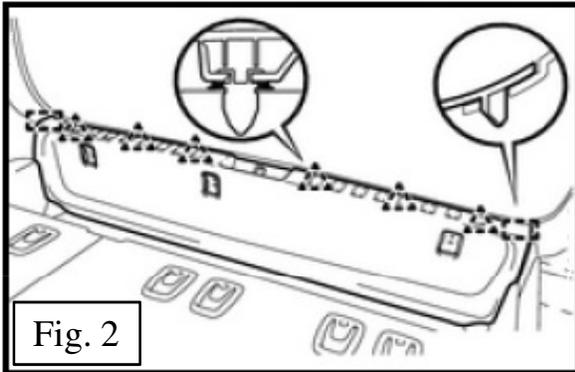

Fig. 2
4. Gently pry the threshold plate up and away from the vehicle using a trim panel removal tool (Fig.2).